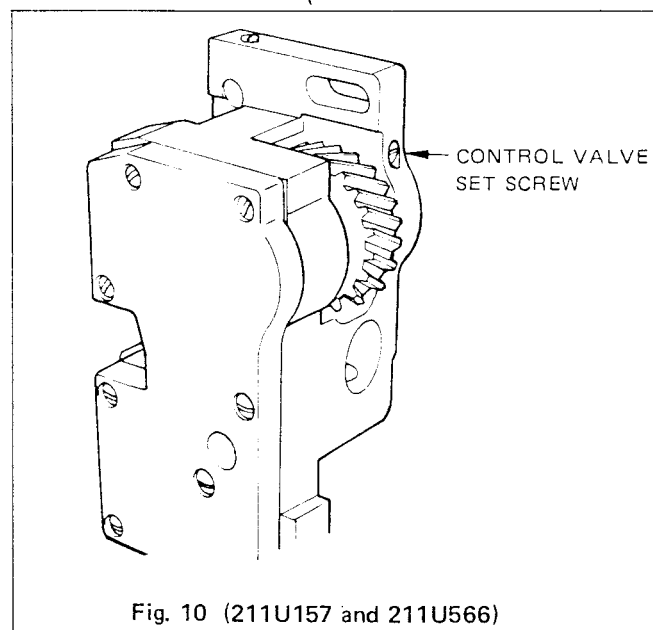

Fig. 10 (211U157 and 211U566)
1. Tip machine and loosen control valve set screw shown in Fig. 10 and return machine to upright position.